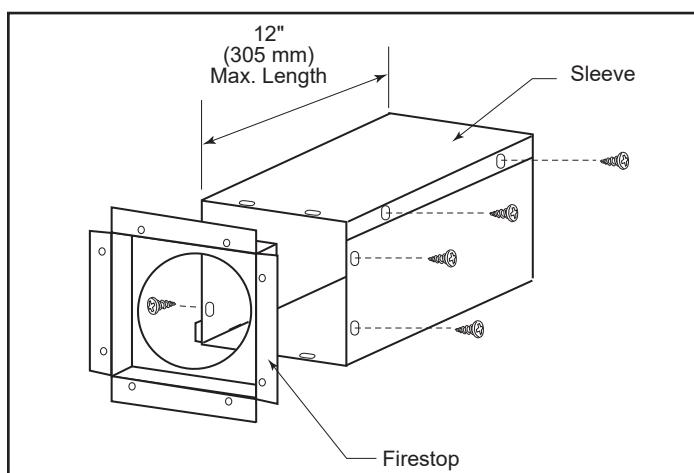

Figure 23 - Assemble the wall sleeve and firestop.
- Measure the wall thickness and cut the wall sleeve sections to proper length (MAXIMUM 12"). Assemble the sleeve with the #8 sheet metal screws supplied. Attach the firestop plate to the sleeve end with the holes. (Figure 23) **NOTE:** The wall sleeve is required in combustible walls only.
- Install the Wall Firestop/Sleeve assembly into the wall cutout and fasten the firestop to the wall cutout framing members. (Figure 23)